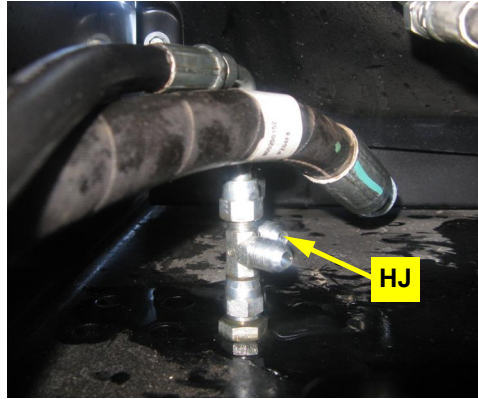

Figure 6c: Steering run-tees installed, tractor's steering hoses reconnected
- c. **With tie rod (continued):** Install run-tees **HJ** at the inner steering line fittings. Reconnect the tractor's steering hoses to the open 'T' ends of **HJ** (Figure 6c).